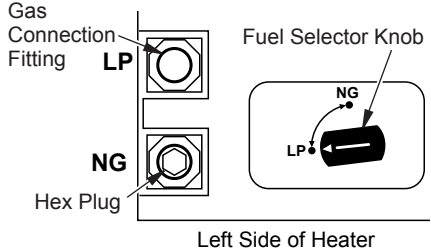

Figure 11 - Settings for Propane/LP Gas Selection
- Remove 2 screws from cover plate located on left side of heater (see Figure 11).
- For propane gas, press in knob using a flat screwdriver with a blade the thickness of a quarter and turn knob counterclockwise until the knob locks into the LP position (see Figure 11). Fuel selection device must be locked in the LP position. Do not operate heater between locked positions.
- Remove hex plug (with wrench provided) from propane/LP gas inlet of regulator (see Figure 11). Install hex plug into NG inlet of regulator. Install gas line into LP inlet of regulator. Use thread sealant to assure there are no leaks.